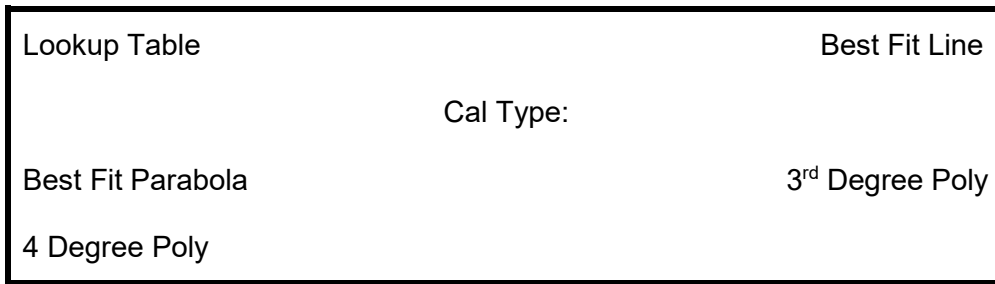

Figure 3-15: Cal Type Menu
- 3.b. The user must decide what type of curve fitting to perform on the data, and this is done in the "Cal Type" menu. See Figure 3-15.